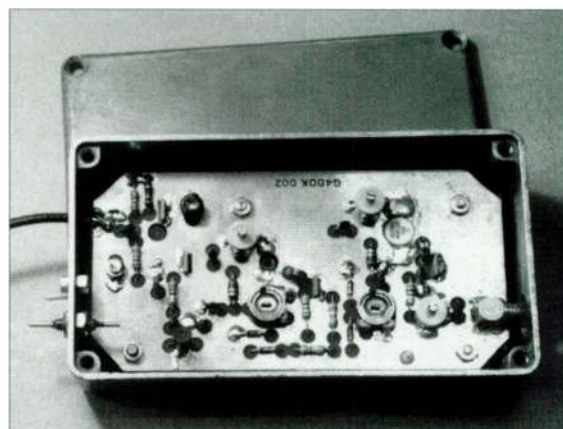

Fig 9.17. Top: component layout for the 1W amplifier G4DDK-002, ground-plane side. Bottom: photograph of completed unit in die-cast box (G3PFR)
3. Drill the holes and make sure the PCB fits easily before you start to solder any components to it. The positions of the components on the PCB are shown in Fig 9.17.